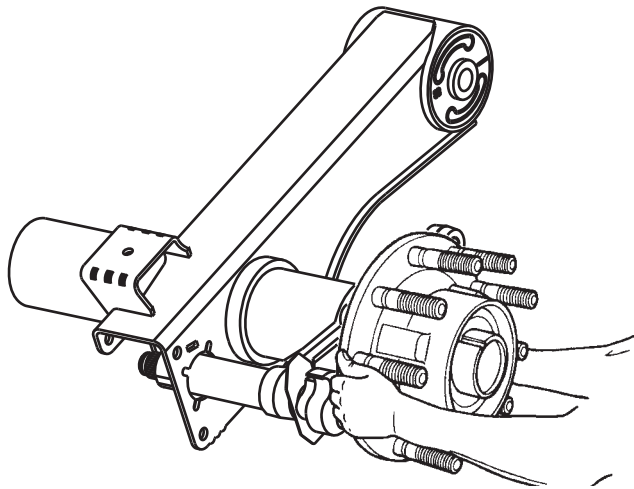

Figure 11. Removing the HUST™ hub
7. Grasp the hub assembly with both hands (figure 11). If the hub assembly is free on the axle spindle, pull the hub as straight as possible to avoid dislodging the clip inside the hub bore. If the hub assembly is stuck on the axle spindle, use either one of the following procedures to remove the hub from the spindle: